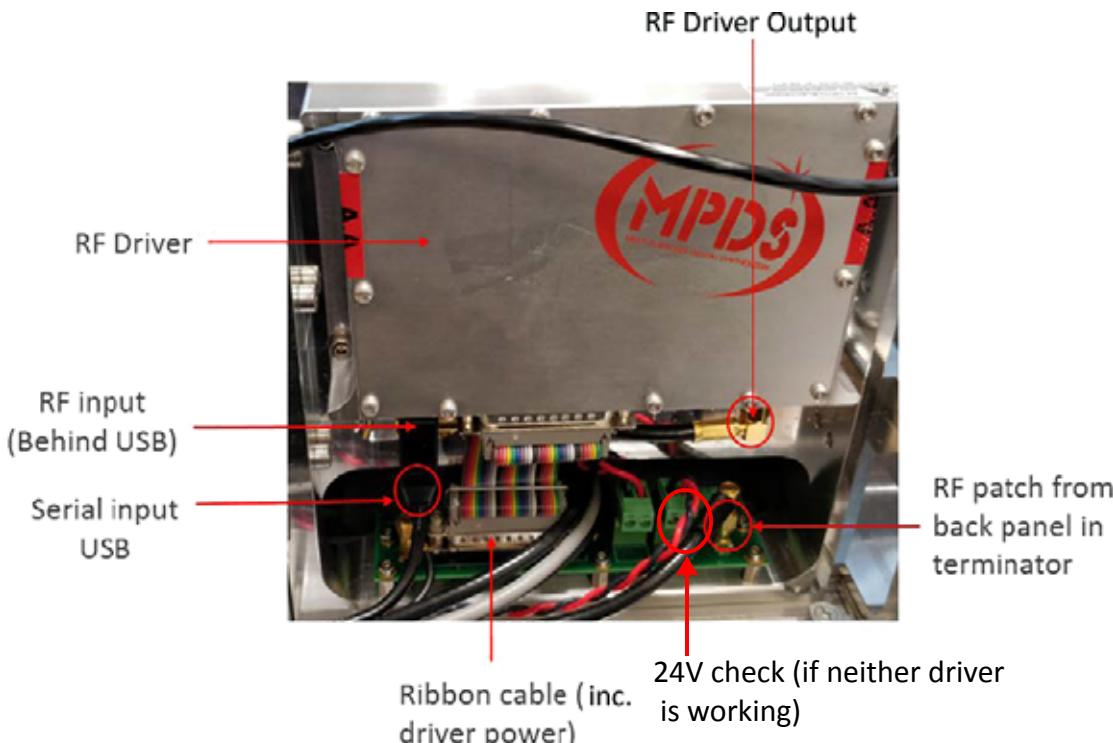

Figure 2.3-2. Driver Components
2. Disconnect the “serial input USB” patch from the driver side as indicated in Figure 2.3-2 and connect the PC USB directly to the driver in its place. Power on the PSU.
2. On appropriate driver (tunable or fixed), check that the RF driver output SMA cable is connected securely to RF input. If correction made, power on and re-test (see Figure 2.3-2). If not, continue.
3. Replace the driver (see Figure 2.3-2).